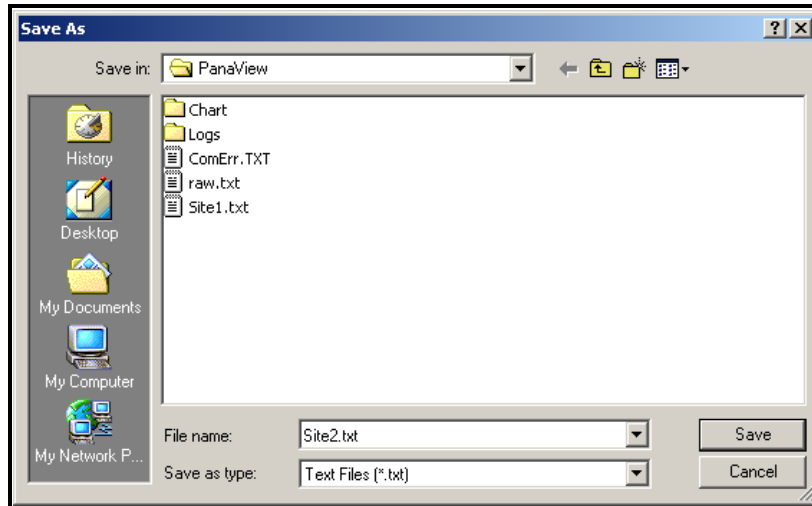

Figure 27: Save As Window
To save the raw signal, click *Save*. A window opens similar to Figure 27. Enter the desired name, and click *Save* to save the signal as a text file.
2. Click Save Site to PC. A window opens similar to Figure 27 on page 31.